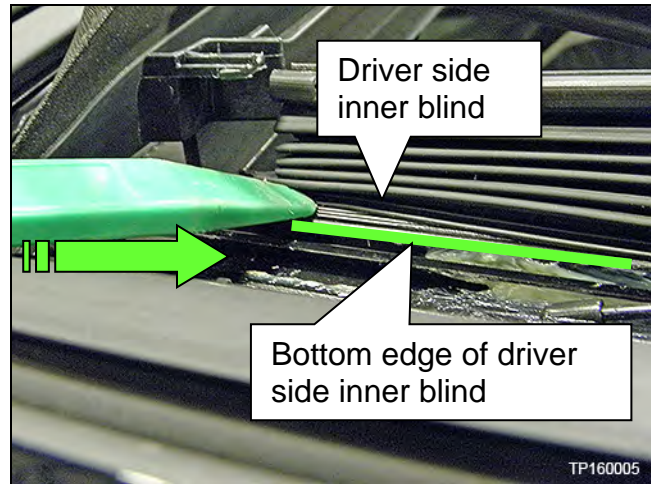

Figure 15
- d. Carefully detach the inner blinds from the Moonroof frame by pushing toward the inside of the vehicle along the bottom edge of inner blind (Figure 15).